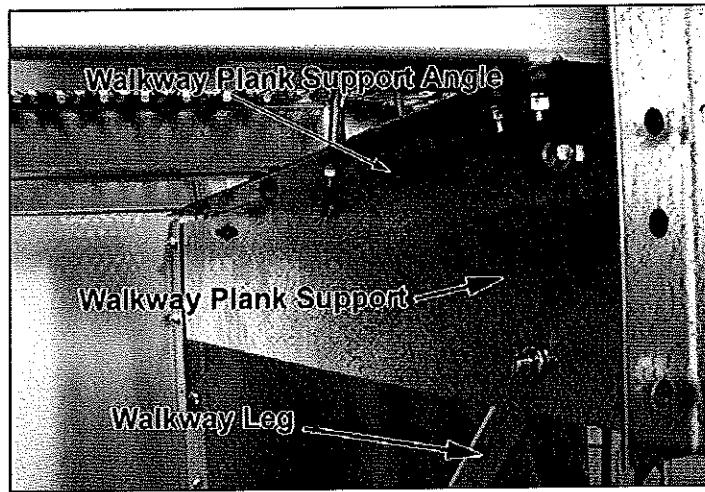

Figure 14
- Install walkway plank support angle. Make sure the top of the plank support angle is flush with the plank support. See Figure 14.